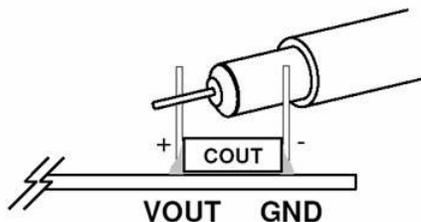

Figure 2. Measuring Input or Output Ripple Directly Across Ceramic Capacitor
**NOTE:** When measuring the input or output voltage ripple, care must be taken to avoid a long ground lead on the oscilloscope probe. Measure the input or output voltage ripple by touching the probe tip directly across the input or output ceramic capacitors. See Figure 2 for proper scope probe technique.